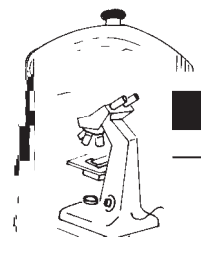

Fig. 9.6
- Cover the microscope when not in use, taking all precautions to prevent growth of fungus (Fig. 9.6).